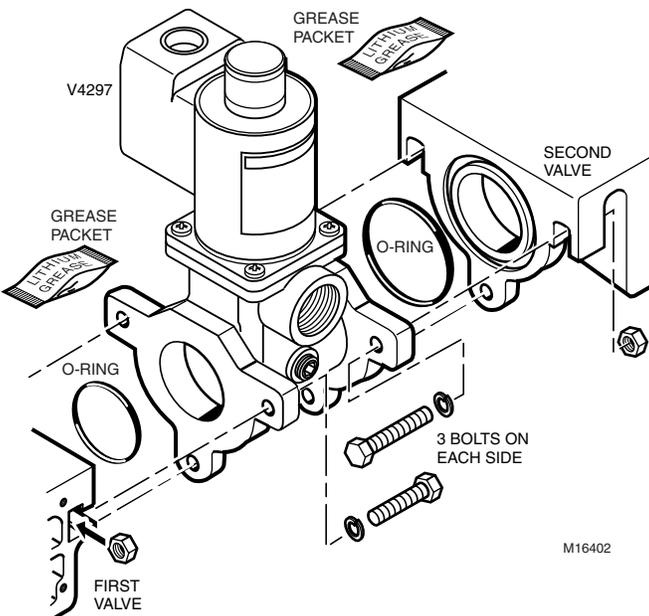

Fig. 3. Connecting the normally open vent valve between two valves.
Connecting V4297S Normally Open Vent Valve (NOVV) Between Two Valves (Fig. 3)
3. Assemble the NOVV to the first valve using the three bolts, nuts and lock washers as shown in Fig. 3.
6. Assemble the NOVV to the second valve using the three bolts, nuts and lock washers as shown in Fig. 3.